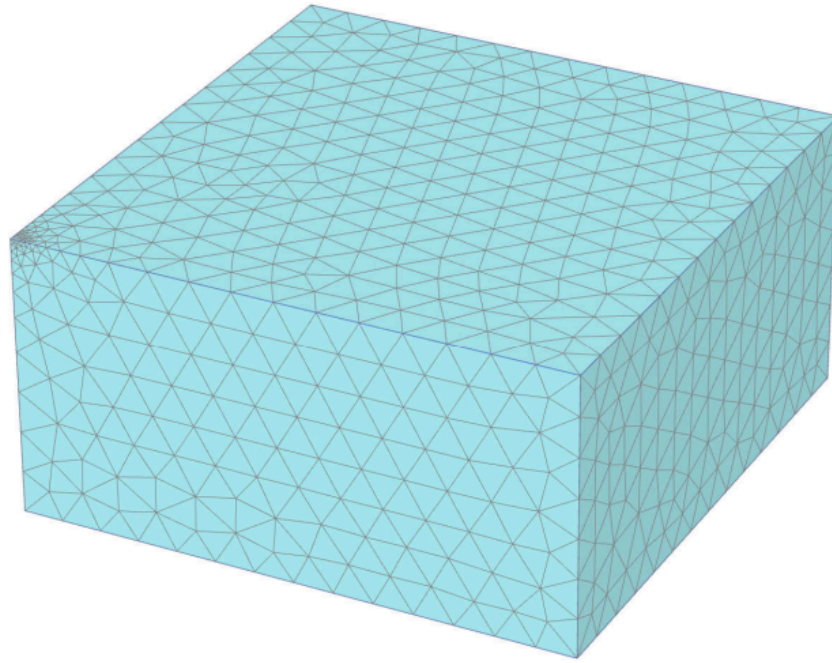

Figure 8–4: The generated mesh
- 4  View the generated mesh (See Figure 8–4 \(p. 153\)).